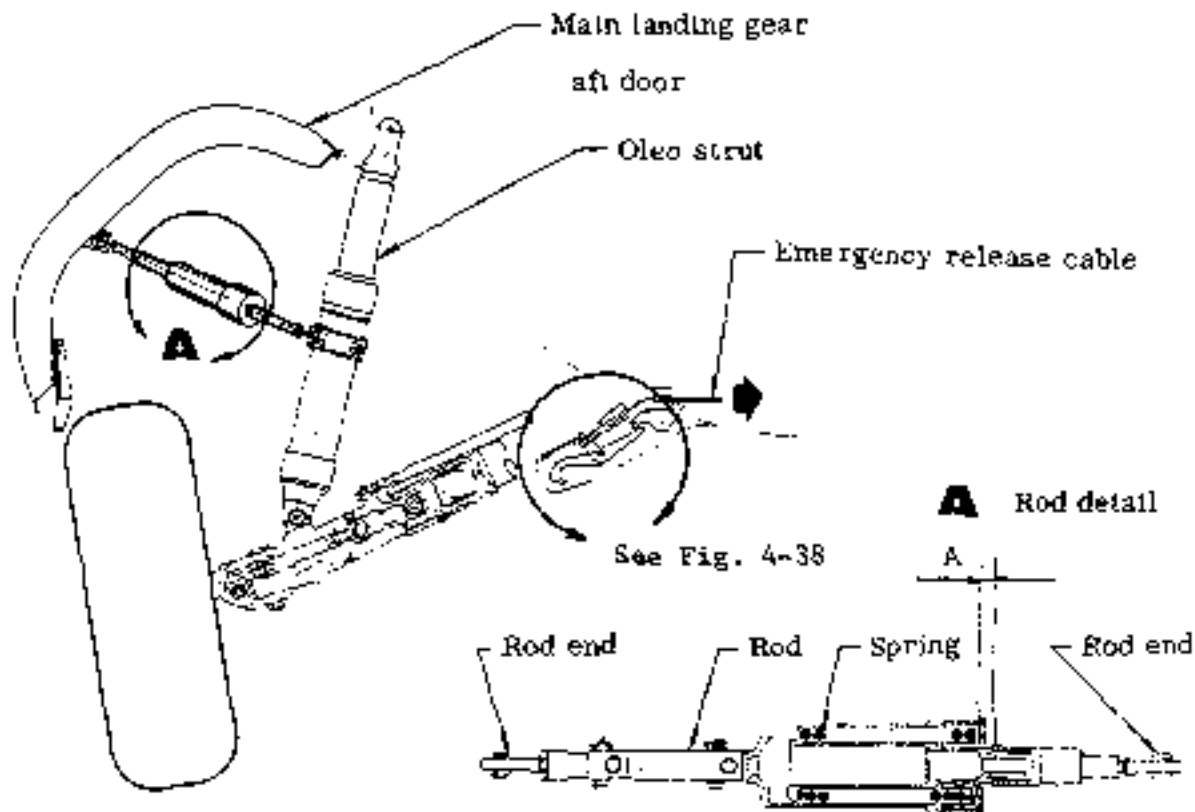

Fig. 4-26 Main landing gear door mechanism
3.9.1 MAIN LANDING GEAR AFT DOOR MECHANISM (See Fig 4-26)
(1) Jack airplane.
(2) Adjust rod length so that the dimension "A" in Fig. 4-26 may be 0.40 to 0.66 in. (10 to 11 mm) when up side nut of power train mechanical stop reaches the end of its travel.